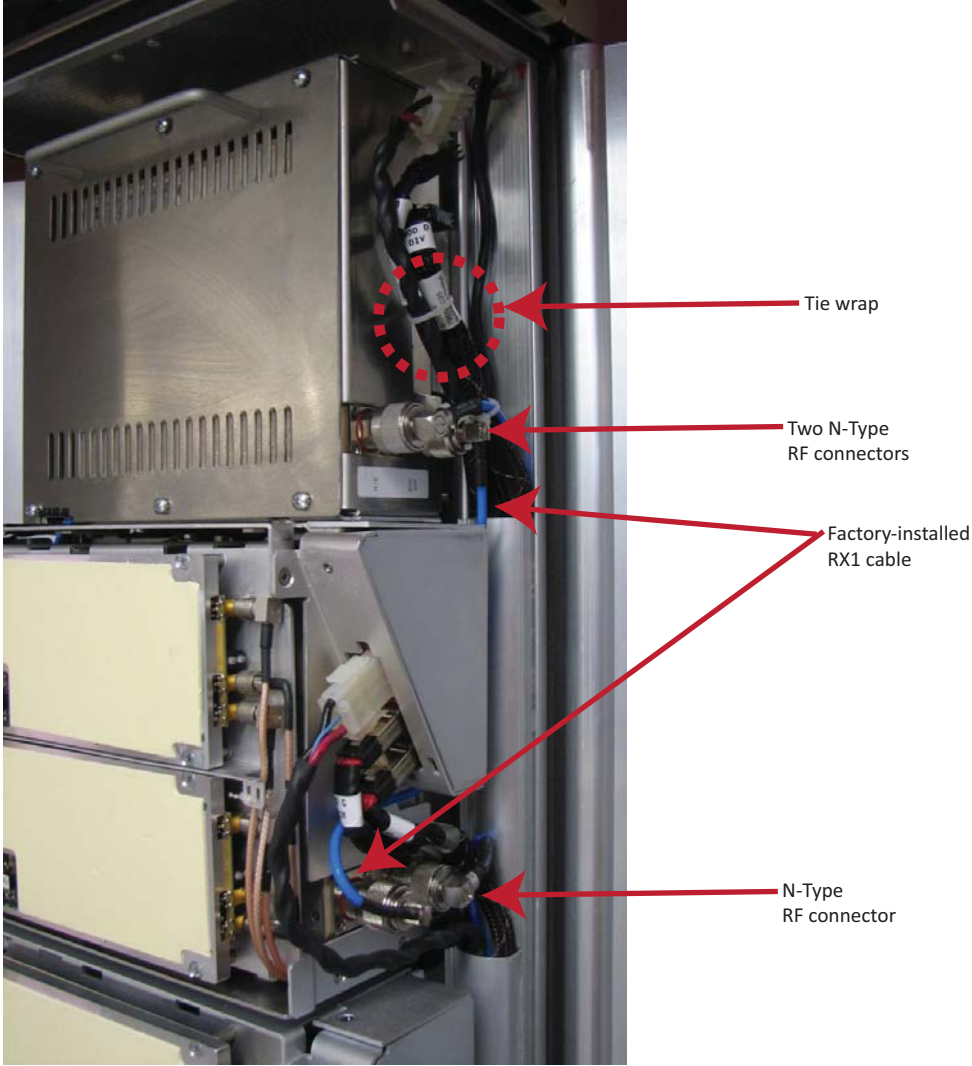

Figure 23. Cable Connections for Dual-Band Dual-Bay RF Modules
- 3 Working from the bottom connector up, connect the RF Module cables, as described below. As you work, refer to the graphic that corresponds to the RF Module being installed in the Dual-Bay: for a Dual-Bay RF Module, refer to Figure 23 on Page 42, and for a Legacy Dual-Bay 40W RF Module, refer to Figure 24 on Page 43.